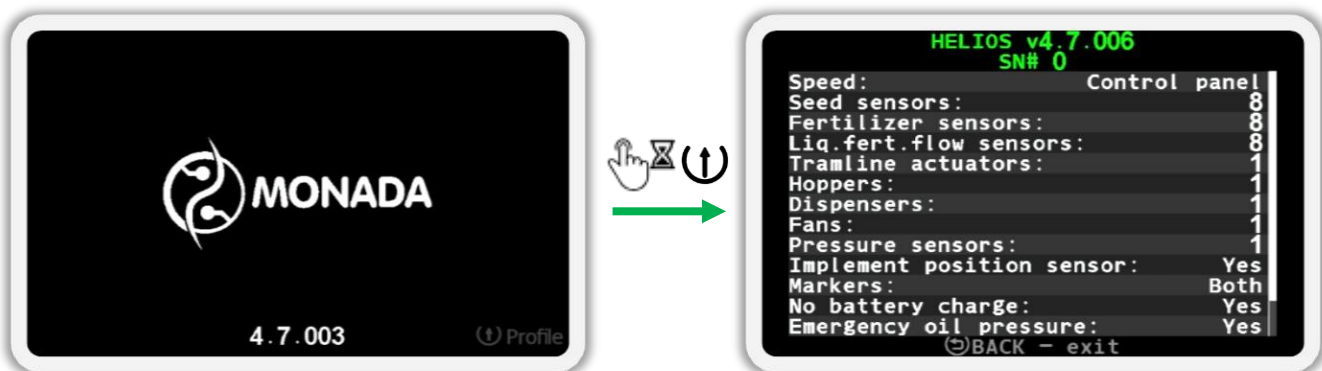

Figure 47 Load screen on the left and profile info screen on the right
2. Press and hold the  “Up” button and turn on the operator panel. Make sure the power indicator is green (see Figure 4 p.6) and the operator panel display shows the loading screen with the logo³⁶ (see Figure 47 on the left). After a few seconds, the profile info screen will appear on the display³⁷ (see Figure 47 on the right).